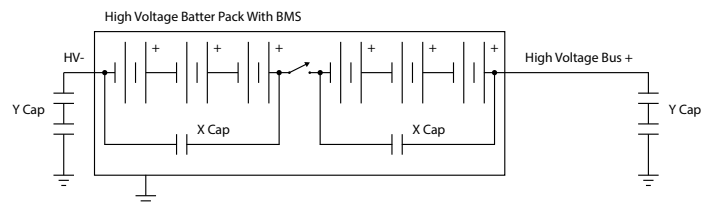

Figure 2. Simplified circuit diagram of a high-voltage battery pack integrated with BMS
- Safety Certified capacitors are commonly used at the input and output of major functional blocks (like the BMS) to help suppress the effects of electromagnetic and radio frequency interference (EMI/RFI). As seen in Figure 2, Class Y safety capacitors at the high voltage bus and Class X safety capacitors for each cell module are added for protection from EMI noise disturbance. Plus, they can offer electric leakage protection of high-voltage systems via insulation resistance monitoring with an RC circuit.